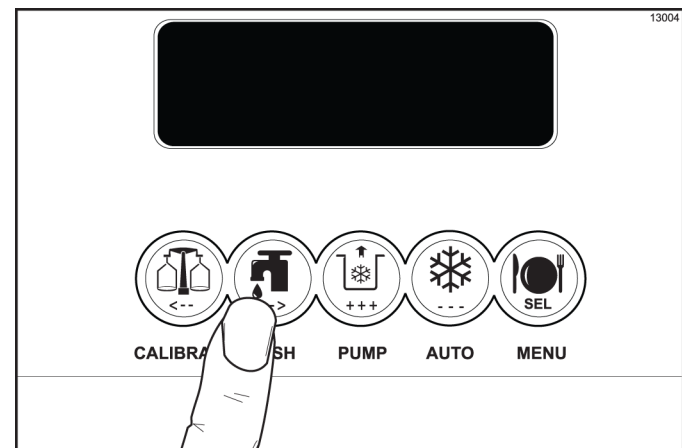

Figure 6-36
9. Press the WASH key. This will cause the sanitizing solution in the freezing cylinder to come in contact with all areas of the freezing cylinder. Allow the sanitizing solution to agitate for 5 minutes. (See Figure 6-36.)